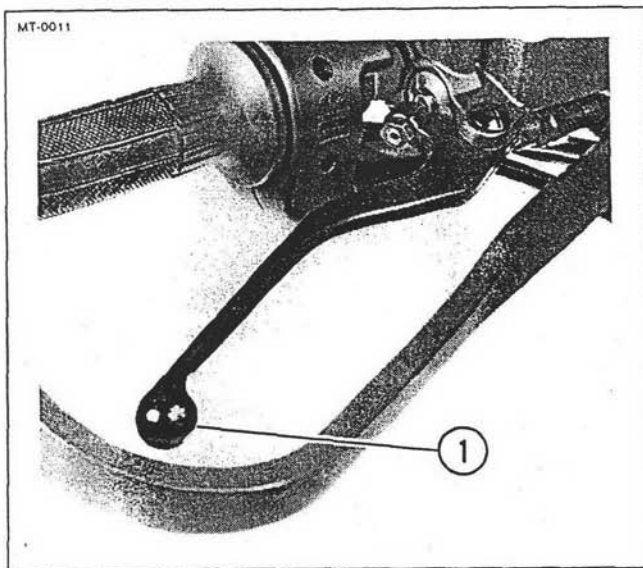

Figure 2-35. Frnt Brake Lever Free Play
See Figure 2-35. Be sure there is 11-13mm free play at knob end of lever (1). See Paragraph 5-9 for adjustment procedure.